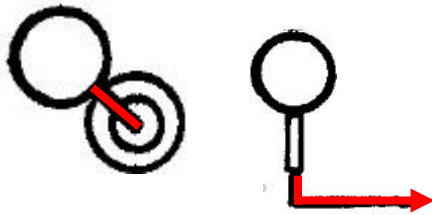

Figure 16: Gaff Outrigger Iron (red line)
- free end of gaff outrigger iron (Fig. 16, red) inserted into the spanker gaff aft end.